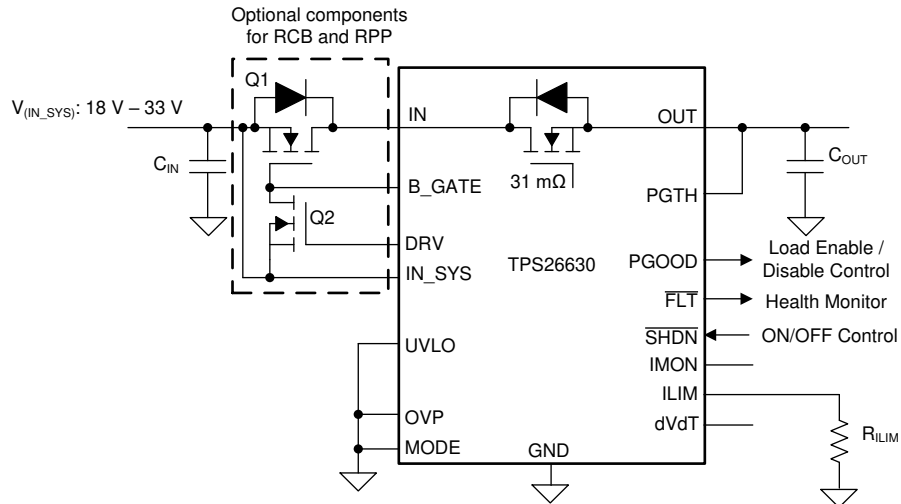

图 10-11. TPS26630 Configured for a Simple 24-V Supply Path Protection
With the TPS2663x devices, a simple 24-V power supply path protection can be realized using a minimum of five external components as shown in the schematic diagram in 图 10-11. The external components required are: a N - Channel Power FET Q₁, a N - Channel signal FET Q₂ and a R_(ILIM) resistor to program the current limit, C_(IN) and C_(OUT) capacitors.